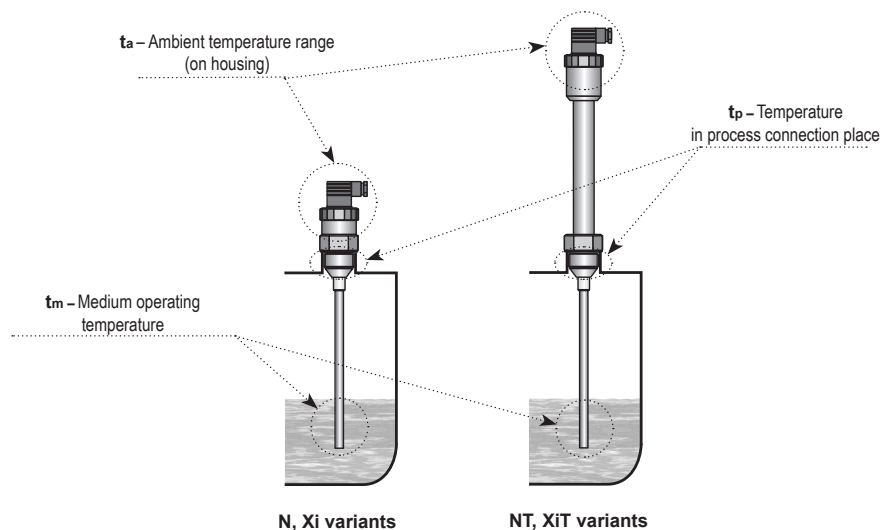

Fig. 16: Points for temperature determination on the level meter
1) The temperatures are clearly explained on Fig. 16.